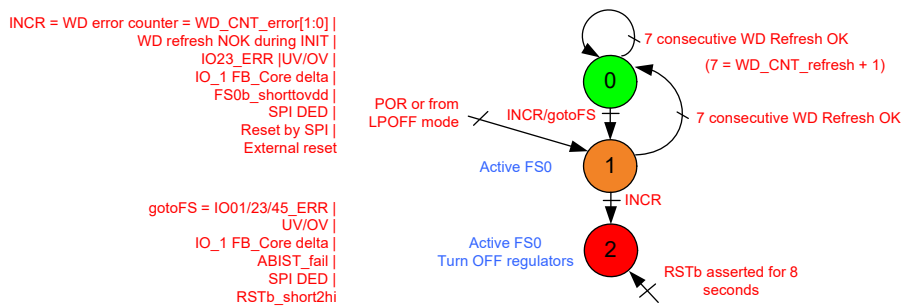

Figure 20. RSTB error counter (RSTb_err_FS = 1)
- RSTB_err_FS = 1 / Intermediate = 1; Final = 2 (Figure 20). When reset error counter reaches 2, the device goes into deep reset and fails.